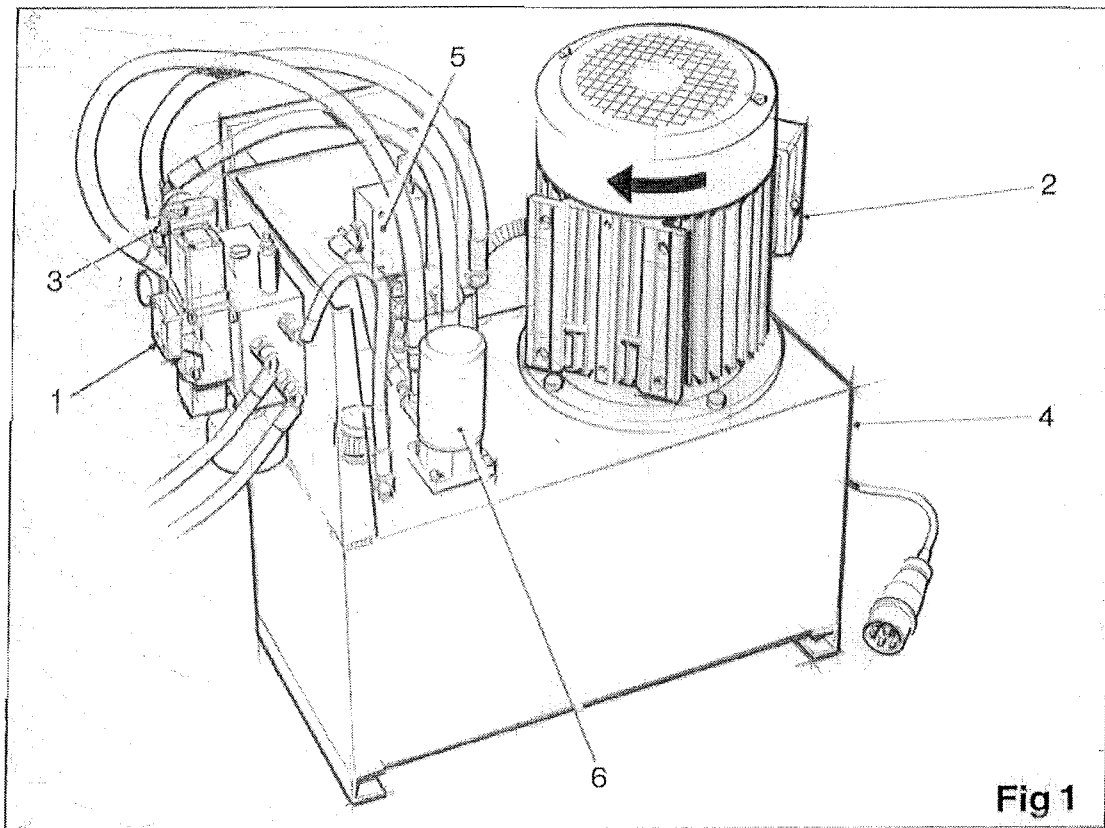

Fig 1
The pressure and return hoses from the reversing valve unit (item 1, fig 1) to the hydraulic motors should be fitted as shown in Figure 2.
The power-pack should be connected to a 3-phase 415 v 50 Hz mains supply. The unit should be wired so that the electric motor (item 2, fig 1) rotates in the same direction as the arrow on the electric motor. The power-pack should be fused to accept the motor load requirement shown in the data table.
The 3 phase electric motor (item 2, fig 1) mounted on top of the power-pack drives a hydraulic pump which in turn powers the hydraulic motors driving the cleaner units. The reversing valve unit (item 1, fig1) mounted on the side of the power-pack is designed to automatically reverse the direction of the cleaner rollers for a few revolutions to release any object which cannot pass between the rollers, and then return the drive to the normal contra-rotating direction.
The rollers rotate at a maximum speed of 420 rpm by rotating the dial knob on the flow divider (item 3, fig 1) mounted on the power-pack. This speed can be varied; the lower the number on the dial relative to the marker, the slower the speed of the rollers.
The hydraulic tank (item 4, fig 1) should be filled with 46 Centistroke Oil and should be kept full at all times. A level gauge is positioned on the tank below the control box, or a dipstick fitted in the filler cap.
The hydraulic pump, mounted inside the hydraulic tank, produces a flow rate of 8 gpm, 16 gpm or 30 gpm. Pressurised oil from the hydraulic pump bypasses the system relief valve (item 5, fig 1) to a variable flow divider (item 3, fig 1) which controls the speed of the rollers. The pressurised oil then passes through the reversing valve unit (item 1, fig 1) to drive the hydraulic motors. The return oil from the motors travels back through the reversing valve unit and then passes through a filter unit (item 6, fig 1) before returning back to the hydraulic tank.
The pressure relief valve (item 5, fig 1) is fitted to protect the hydraulic system should any major blockage occur. It is an essential safety feature pre-set at the factory and should never be tampered with.
Replace the filter element (item 6, fig 1).
Replace filter element (item 6, fig 1).
Drain the hydraulic tank reservoir (item 4, fig 1) and refill with Nuto 46 Centristroke Oil (12 gallons – Small Power-pack / 30 gallons – Large Power-pack).